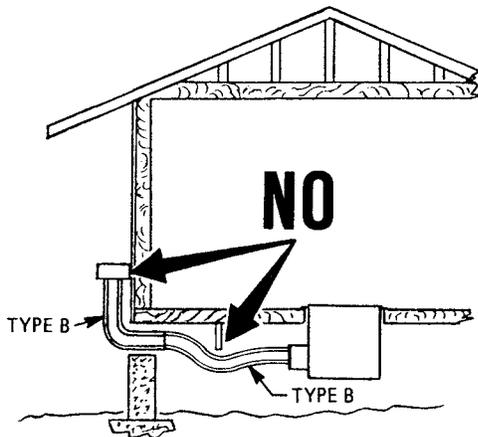

Figure 2
2. Flue pipe **MUST NOT** have any downward sloping sections, dips or sags. See Figures 2 and 3.